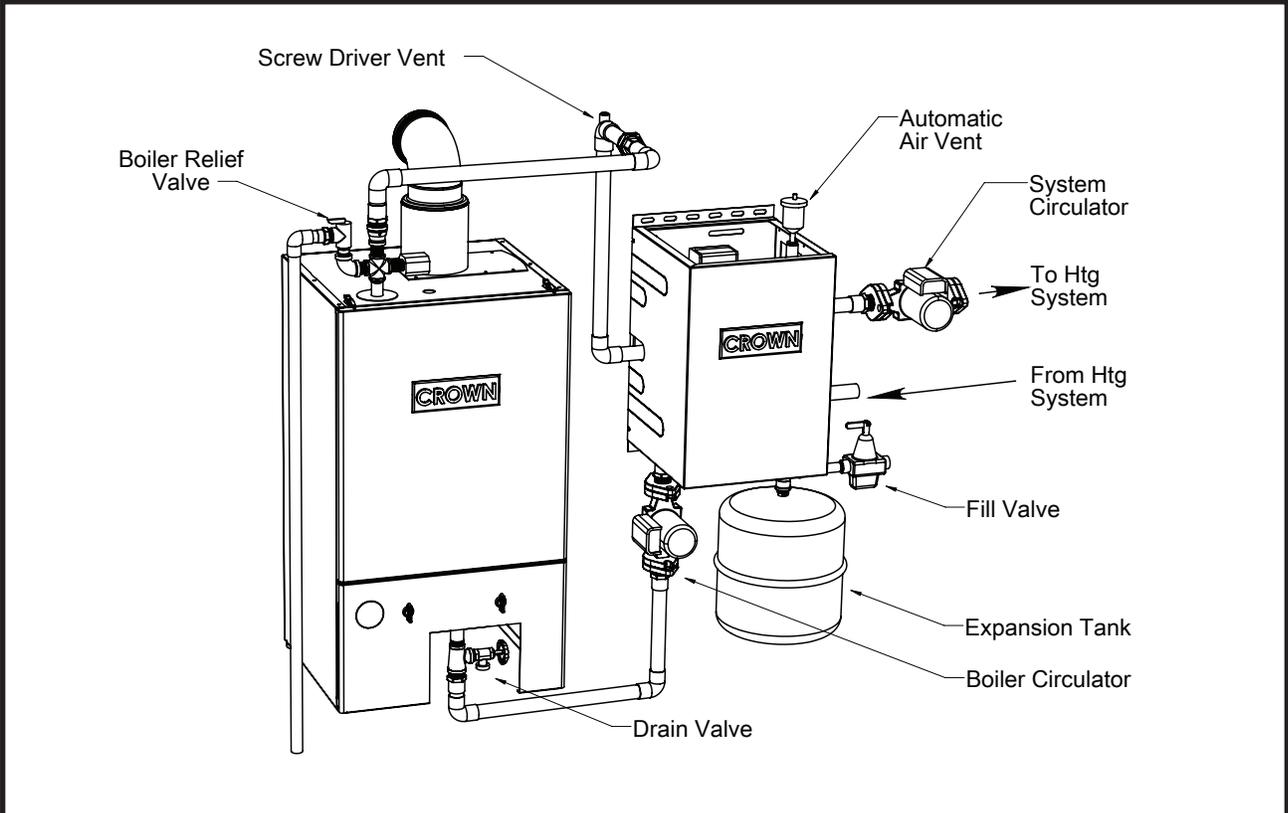

FIGURE 5.1: Installation Of Bimini Buddy at Same Level as Boiler Using Screw Driver Vent
If possible install the Bimini Buddy slightly above the boiler so that there are no down turns in the supply piping between the boiler and the Bimini Buddy (Figure 5.0) so as to facilitate air removal. If this is not possible, install a screw driver vent in the supply piping (Figure 5.1).
- 1) If the Bimini Buddy cannot be installed above the boiler as shown in Figure 5.0 (so that there are no down-turns in the supply piping), install a screw driver vent in the supply piping for initial purging as shown in Figure 5.1.